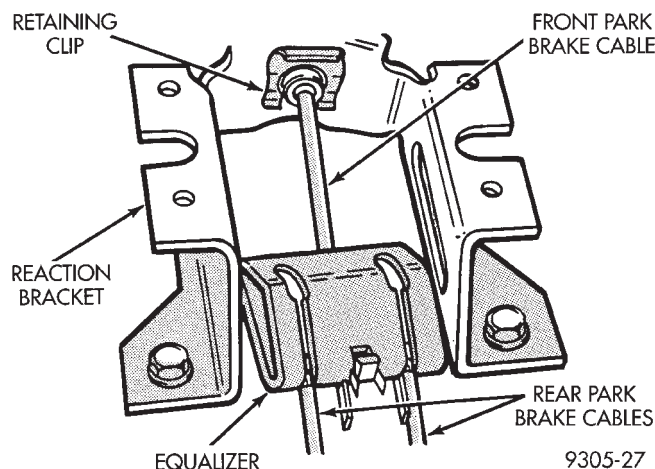

Fig. 133 Park Brake Cables Connected To Equalizer
- (5) Connect the park brake cable to the park brake cable equalizer (Fig. 133). **Note: The equalizer can be moved rearward to allow connection of the rear cable to the equalizer.**